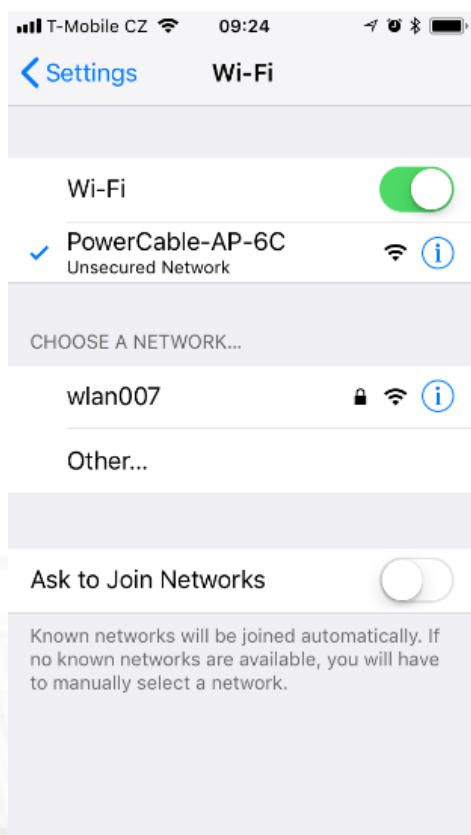

Figure 22 - Connecting to PowerCable AP
- On a computer, tablet or smartphone, display available WiFi networks and connect to the unsecured "PowerCable-AP-xx" network (*Figure 22*).